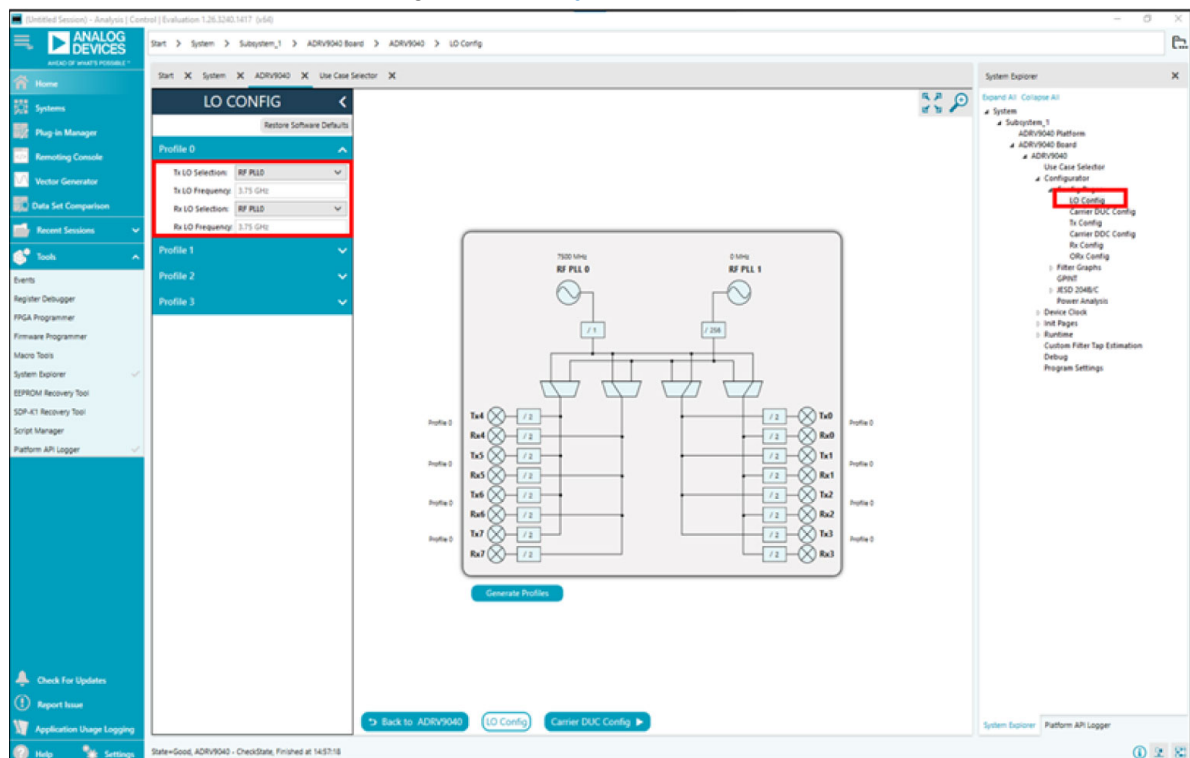

Figure 16. LO Config Page
- Update the RF PLL frequencies under LO Config as shown in Figure 16.